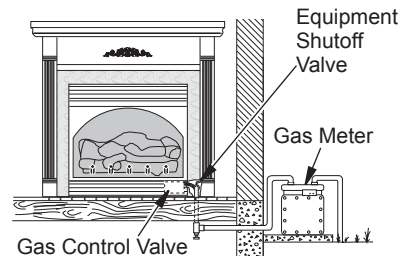

Figure 18 - Checking Gas Joints for Natural Gas
3. Check all joints from gas meter to equipment shutoff valve for natural gas or propane/LP supply to equipment shutoff valve for propane/LP (see Figures 18 and 19). Apply noncorrosive leak detection fluid to all joints. Bubbles forming show a leak.
4. Check all joints from equipment shutoff valve to gas control valve (see Figures 18 or 19). Apply noncorrosive leak detection fluid to all joints. Bubbles forming show a leak.